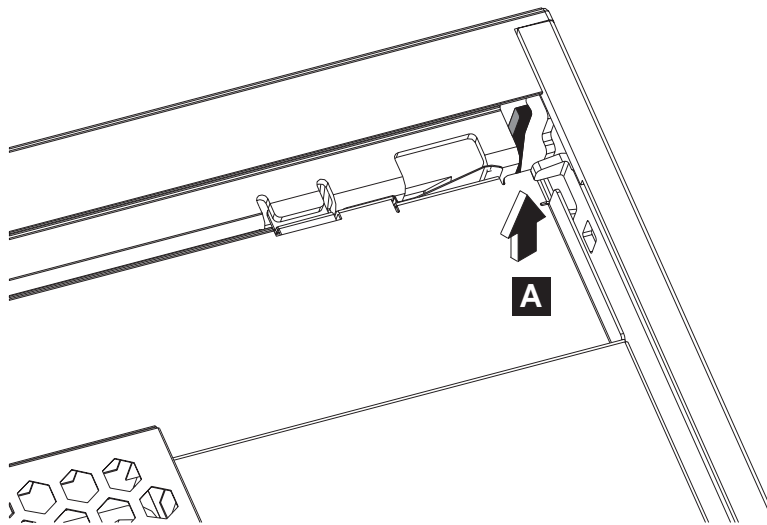
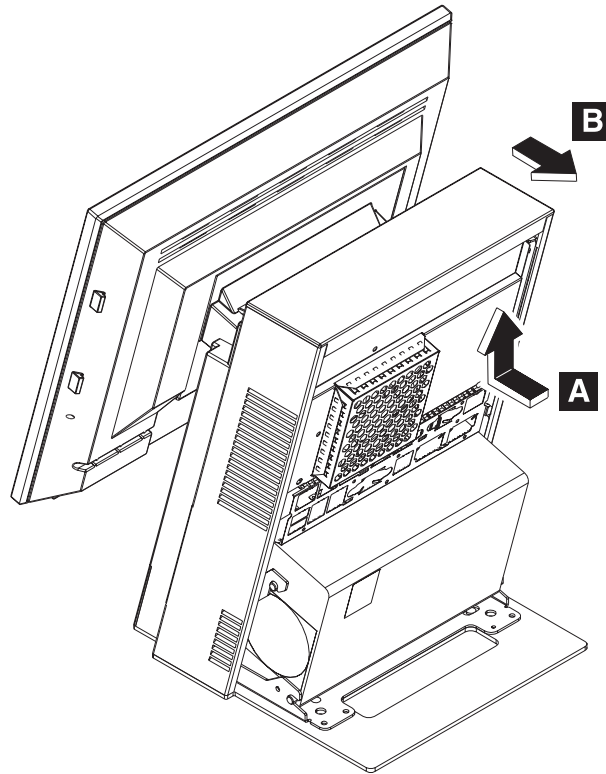

Figure 56. Removing the top cover
Figure 57. Releasing the top cover
3. Using a screwdriver, press to lift the tab **A** while pulling the top cover forward (or toward the rear). See Figure 57 on page 71 and Figure 56.